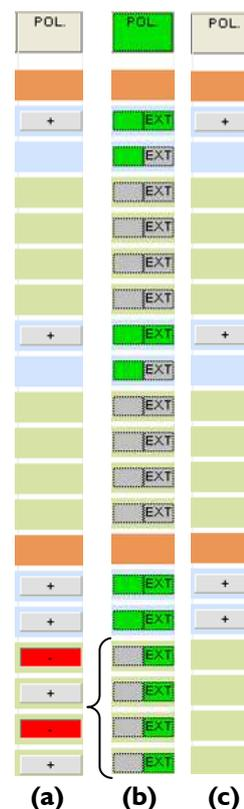

Figure 39: Hiding the output channel polarity:
5. Activate the USER Mode by clicking on the **Go to USER Mode** function presented above. The accessible **parameters** will be displayed and the locked **parameters** will be hidden (see Figure 39).